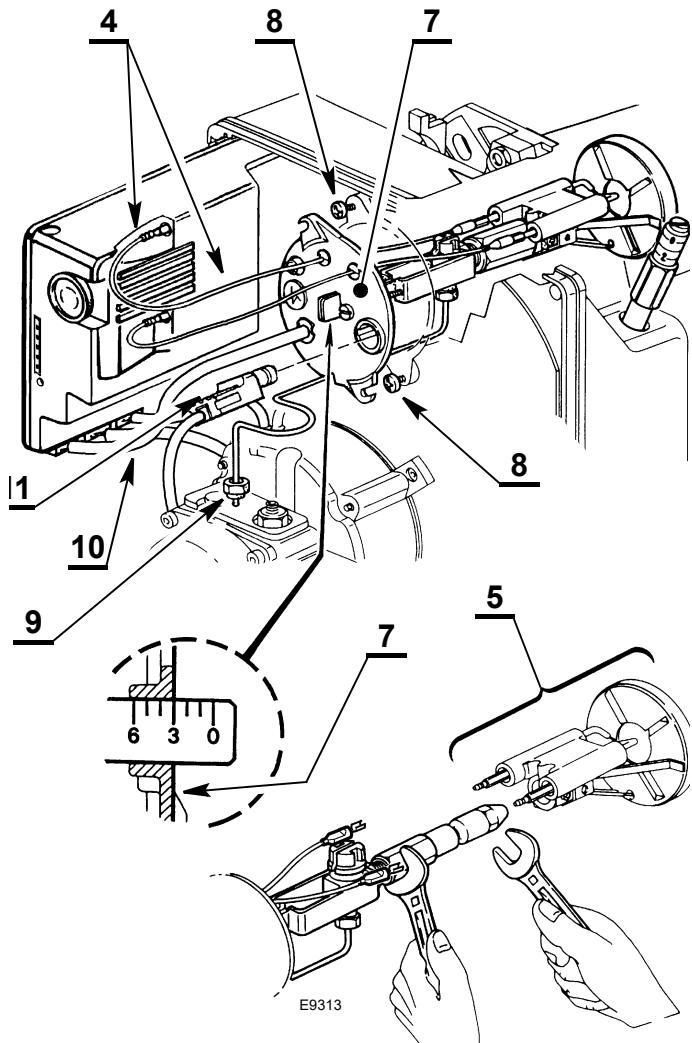

Fig. 11
1st Method (Fig. 11):
- remove the wires 4)(Fig. 11) from the control box, the flame sensor 11) and unscrew the nut 9) from the pump.
2nd Method (Fig. 11):